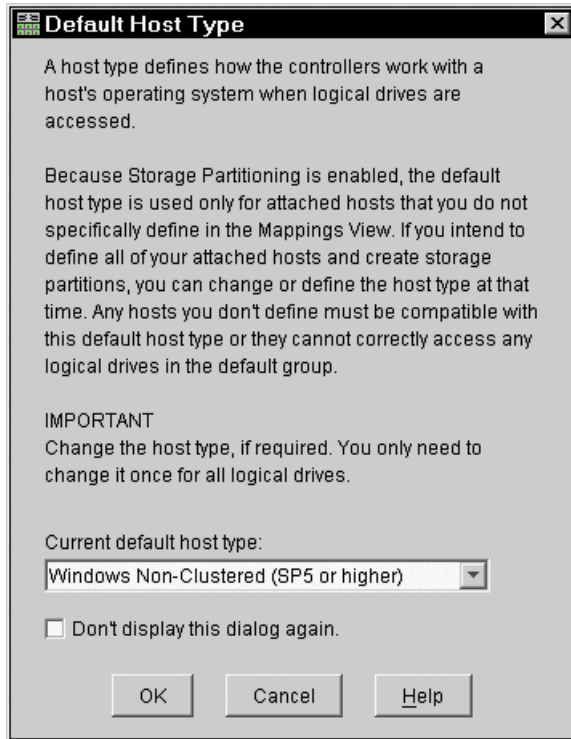

Figure 4-31 Default Host Type window
- a. If this is the first time you are creating a logical drive from this instance of the FAST Client, the window shown in Figure 4-31 appears. The Current default host type should be set to **Windows Non-Clustered (SP5 or higher)**. You should only change this type if you attach hosts running the same operating system.